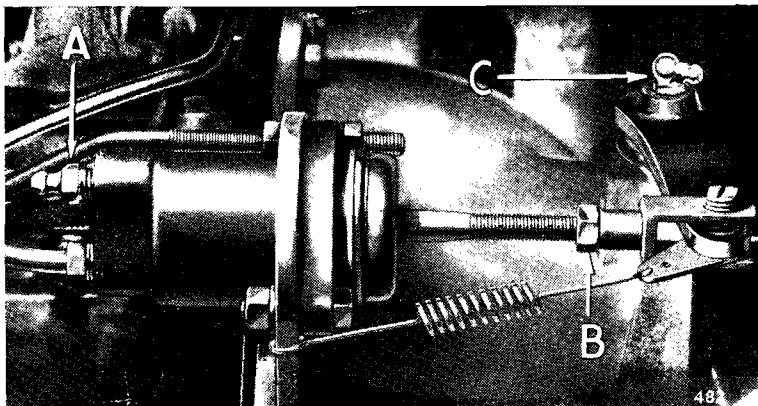

Fig. 17. Clutch adjustment.
Adjustment of the mechanism can normally only be judged as necessary at the connecting rod between the operating cylinder and the shaft operating lever end, see Fig. 17. The correct setting is when there is .075" (1.9 mm.) end float of the rod between operating cylinder and lever, in the "foot off" condition. To achieve the correct setting, measure the total movement of the operating lever by hand and if different from the specified amount release the locknut (B) Fig. 17 and adjust the length of the connecting rod to the correct figure. The adjustable connection between pedal and master cylinder is set on initial assembly and **MUST NOT** be tampered with as it will never require adjustment.
If a pipe has been disconnected, it will be necessary to bleed the system. A bleeder nipple is shown by the arrow (A) Fig. 17. For instruction on bleeding the system, see page 32.